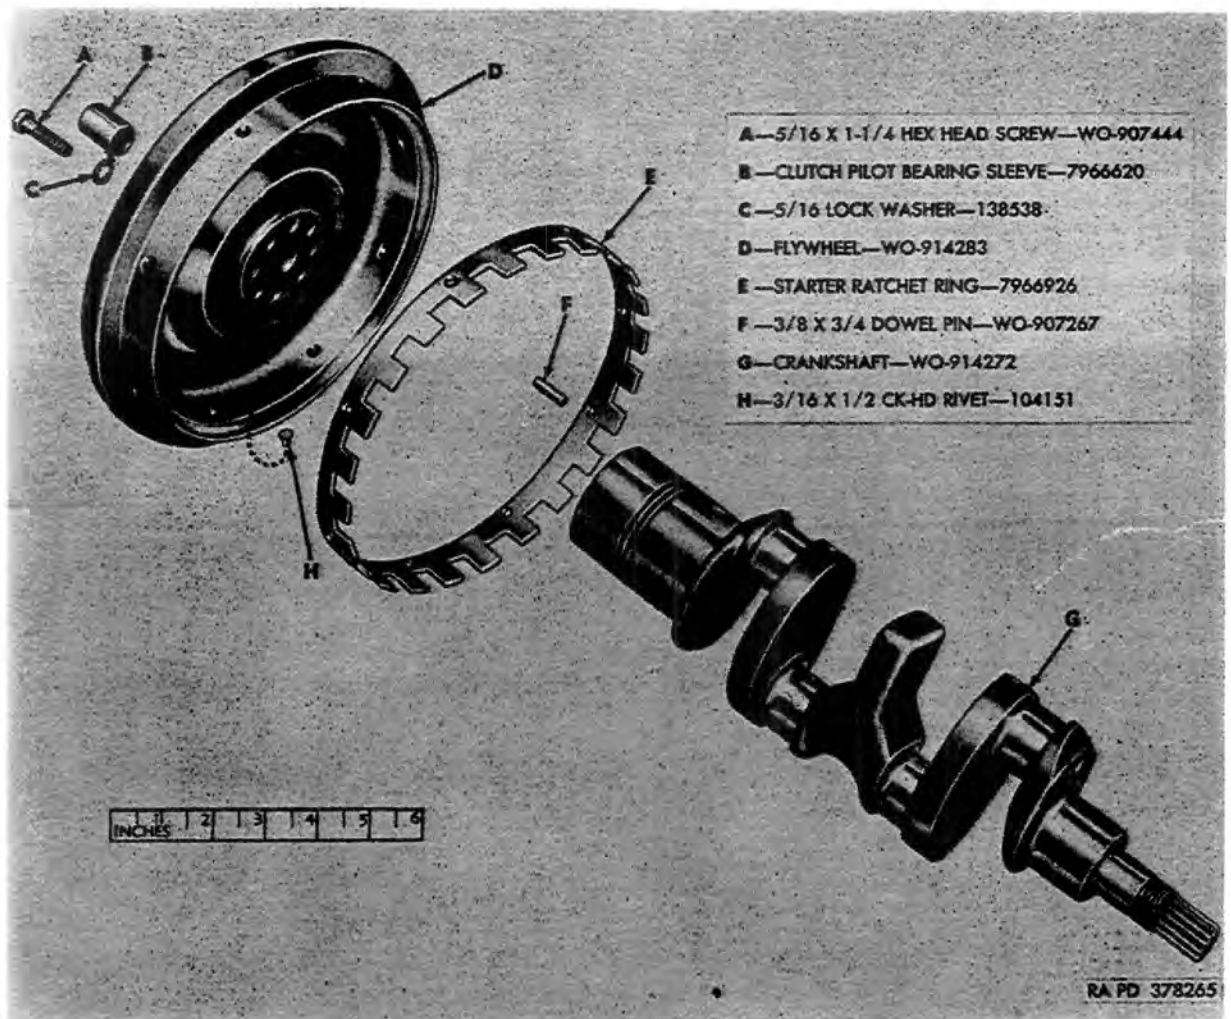

Figure 38. Crankshaft and flywheel—Exploded view.
- (1) *Crankshaft.* Examine crankshaft (G, fig. 38) carefully for any signs of scuffing or overheating. Such signs are an indication of a defective bearing. Check bearings (pars. 52b (4), 55b (2), and 58d). If magnaflex equipment is available, check crankshaft for cracks by this method. Give particular attention to areas near oil holes. If above method is not available, inspect visually. Use magnifying glass to inspect all ground surfaces. If any cracks are evident, crankshaft must be replaced. Polish out any fine scratches on journals and crankpins, using crocus cloth and dry-cleaning solvent or mineral spirits paint thinner. Check journal and crankpin diameters, and crankshaft run-out limits specified in repair and rebuild standards (pars. 129-132). To check run-out, support crankshaft by end journals and check face at flywheel end with a dial indicator. Re-grinding of shafts is not recommended. Shafts requiring such reconditioning should be replaced. If crankshaft is replaced separately, it must be balanced with mating flywheel ((4) below). Examine dowel pins in crankshaft for tightness and good condition. Replace loose or damaged dowel pins. Check dowel pins to limits specified in repair and rebuild standards (par. 130).
- (2) *Flywheel.* Inspect clutch face of flywheel (D, fig. 38) for grooving or damage. If face is severely damaged, replace flywheel. If flywheel is replaced separately, it must be balanced with mating crankshaft ((4)
below). Examine ratchet ring (E, fig. 38) for loose rivets, broken ring or lugs. Replace loose rivets and/or damaged ratchet rings ((3) below). Check clutch pilot bearing (B, fig. 38) to limits specified in repair and rebuild standards (par. 130). Replace a defective bearing. Check inside diameter of bearing after assembly.
- (3) *Ratchet ring replacement procedure.* Drill out rivets, cut ratchet ring with a chisel, and remove defective ring. Remove burrs or ridges on flywheel with a fine mill file. Position a new ring on flywheel and press flush to flywheel flange. Install eight $\frac{3}{8}$ x $\frac{1}{2}$ check-head rivets (H, fig. 38) through the flywheel and upset rivets into countersunk holes in ratchet ring. Grind riveted heads flush with outside diameter of ratchet ring.